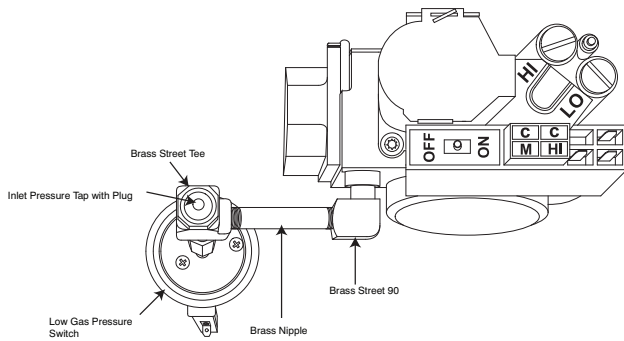

Fig. 12 - Alternate Low Gas Pressure Switch - 1 1/2-in and wider furnaces
3. Apply pipe dope sparingly to the male threads of the 1/8-in. brass street tee. Install the male end of the street tee as shown in Fig 12. One opening on the street tee should face you. The other opening should be parallel with the inlet of the gas valve.
4. Apply pipe dope sparingly to the male threads of the 1/8-in. brass hex nipple. Install the hex nipple into the open end of the brass street tee. See Fig 12. The hex nipple should be parallel with the boss on the gas valve.
1. If the vent pipe does not pass between the inducer and burner assembly, or the furnace is wider than a 14 3/16-in. wide casing, install the switch as follows (See Fig 12.):